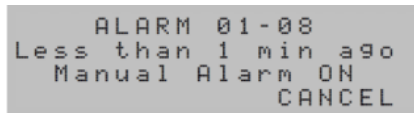

Figure 7-8: Alarm details
The screen in Figure 7-8 shows the Zone (01), Unit (08), time of event and type of event (evacuation, call point, sensor alarm, tamper alarm or PIR alarm).